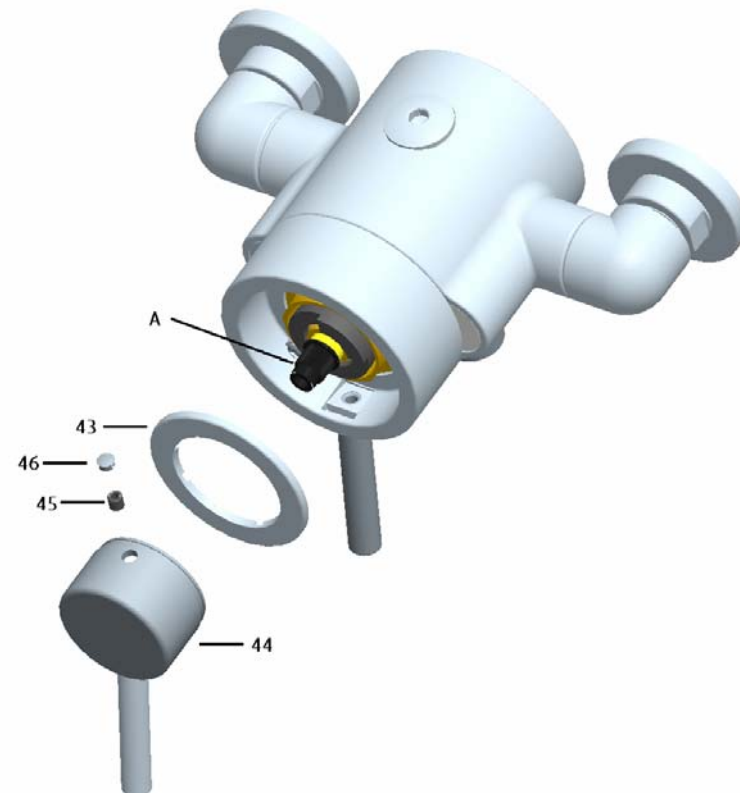

Fig. 7
8.8 Resetting the Maximum Temperature (See Fig. 7)
8.8.2 See Fig. 7 below, remove the temperature control handle and shroud (44 & 43) by removing the cap (46), loosening the grub screw (45) and pulling the handle and shroud (44 & 43) off the spindle (A).